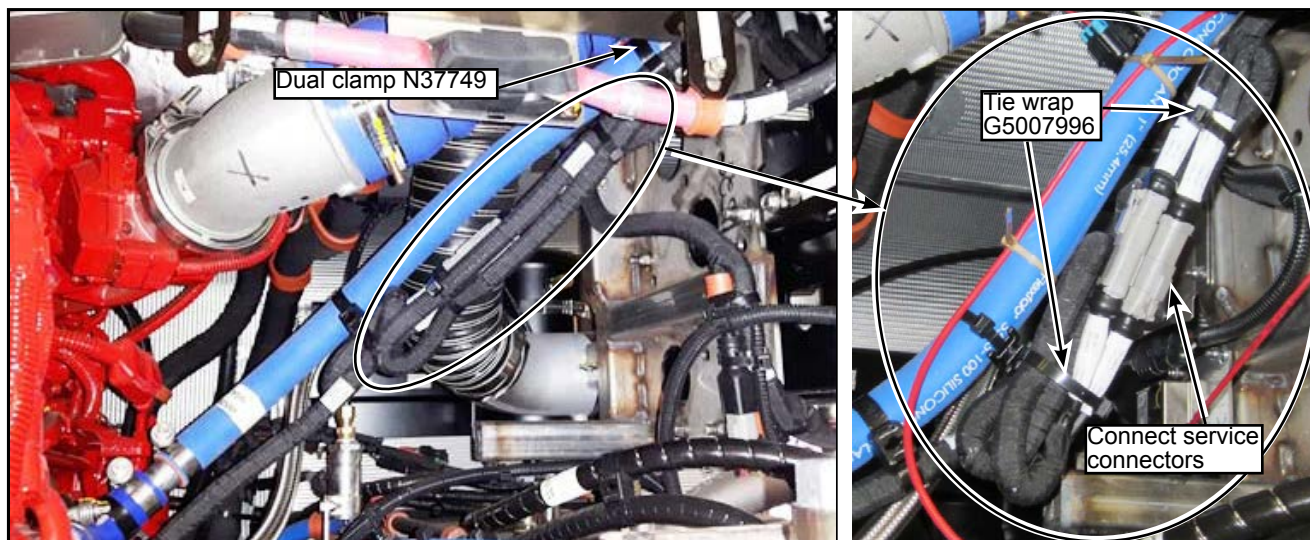

Figure 12 - Secure the Excess Length of the Wire Kit
- 1.13. Continue along the blue air line, install a dual clamp N37749 and connect the service connectors. Secure the excess length of the wire kit onto the existing wire kit with two tie wraps G5007996 (see Figure 12).